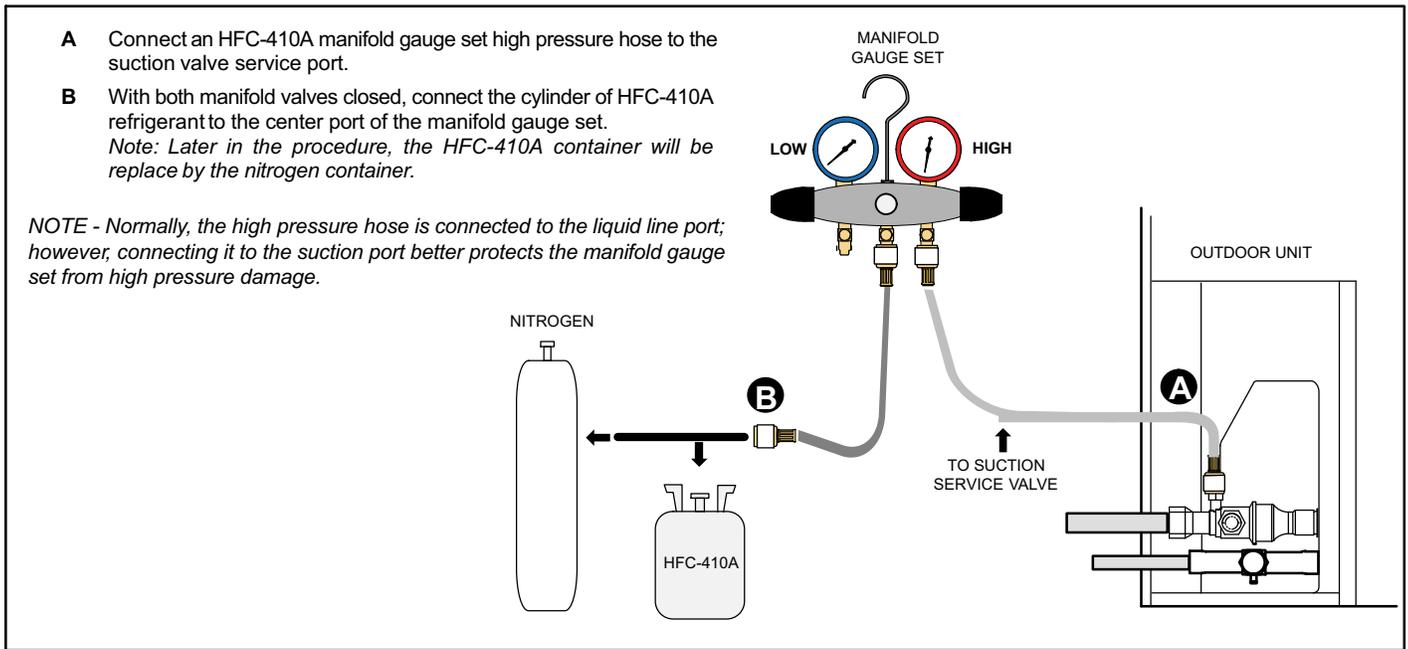

Figure 25. Typical Leak Testing Manifold Gauge Set Connections
- Connect an HFC-410A manifold gauge set high pressure hose to the suction valve service port as illustrated in figure 25.